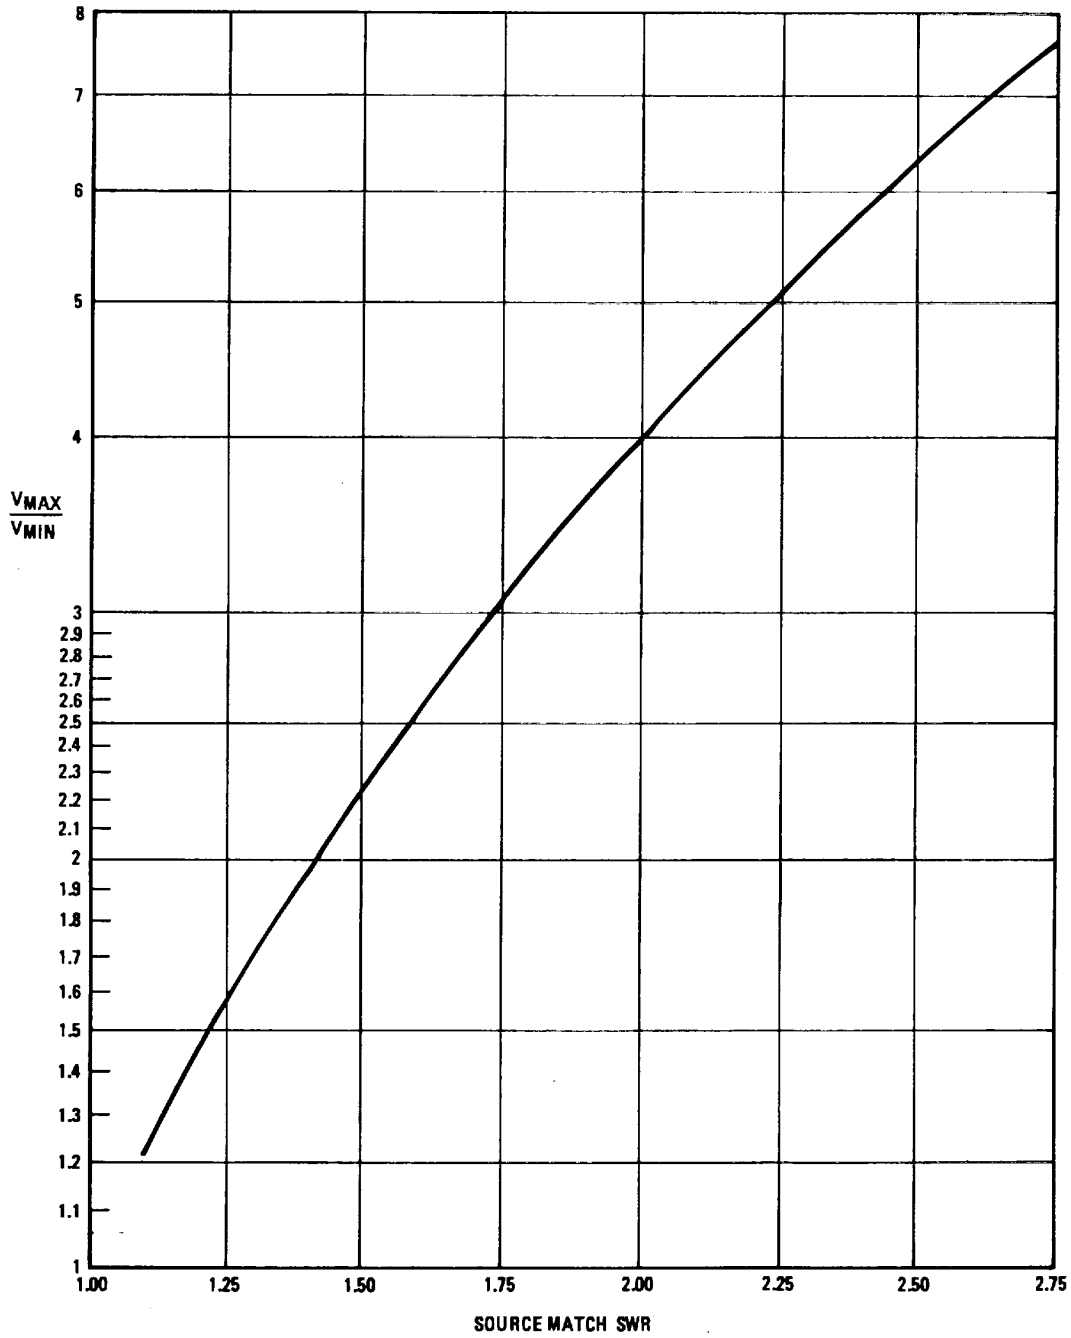

Figure 4-11. Graph to Convert Oscilloscope Trace to Source Match SWR
f. Convert VMAX/VMIN ratio noted in step e into source match SWR, using Figure 4-11. The SWR value should be <2.0:1.